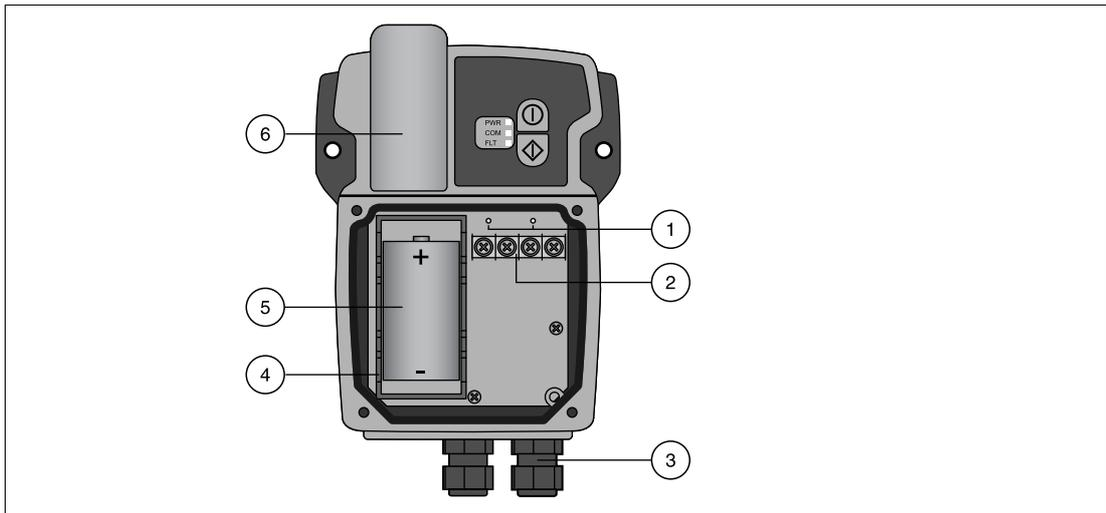

Figure 2.3 Connections and interfaces
3. Route the cables through the cable glands of the housing. → see Figure 2.3 on page 12